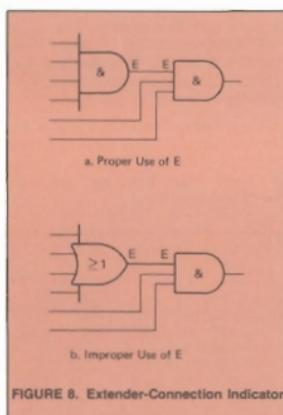

FIGURE 8. Extender-Connection Indicator
The extender-connection indicator (E) is actually an external qualifier that is used to extend (increase) the number of inputs to another logic function circuit (see Figure 8). Only logic functions that perform the same function may be connected as shown in Figure 8a. Unlike functions such as shown in Figure 8b are not allowed. Also, the polarity indicator is not allowed with the E indicator.